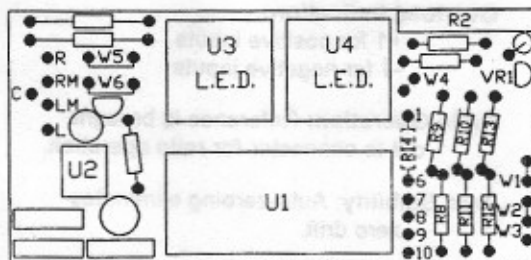

Figure 3. Component Location
1. **Connector.** The connector (purchased separately) after assembling, is plugged onto pins at rear of meter. Line up connector key with missing pin in position 2. Pin 1 in Figure 3 is the pin that's by itself. Pin 2, 3, 4 and 5 are not installed on the PC board of the meter.
3. **Signal.** For most applications it is desirable to have SIGNAL LO (Pin 6) connected to power ground (pin 7). As shipped, the meter makes this connection with a printed circuit trace labeled "W1." Connect signal HI and signal LO of the source to pins 1 (HI) and 6 (LO) respectively of the meter. A shielded cable may be required if the signal source has a high resistance. If there is any connection between source LO and power ground (other than W1), and if instability is observed in the least significant digits of the display, this instability may be improved by cutting the "W1" PC trace.
- Install jumper W3. (See Figure 3)
3. Observe resistor values that are in meter and compare to figure 3 and Table II. Install resistors specified in Table II to attain desired range.
For DC current modification, the meter must be in the 200 mV range to accomplish this. Refer to Figure 3 & 4 and Table III, for position of R14. Higher currents are measured by using an external current shunt. (Call factory for requirements)